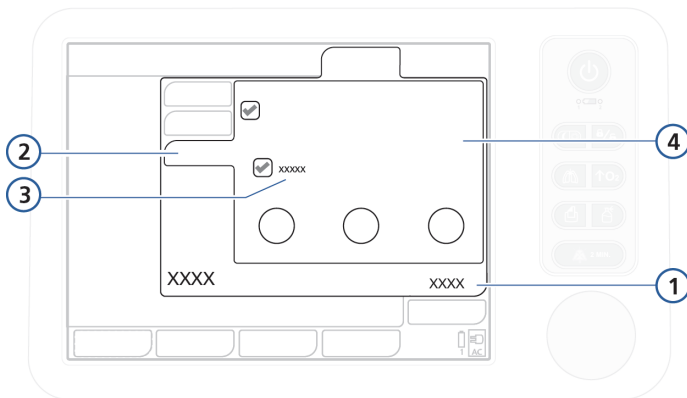

Figure 4-7. Apnea window, Automatic button
4. If applicable, open the **Controls** -> **Apnea** window (Figure 4-7). Select or deselect **Backup** as desired.
3. If applicable, open the **Controls** -> **Apnea** window (Figure 4-7).